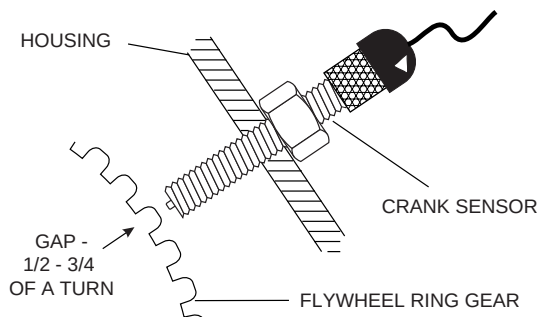

Figure 3. Crank Sensor (MPU1)
5. Lightly screw the magnetic pick-up down until it contacts the top of the flywheel tooth (Figure 3).